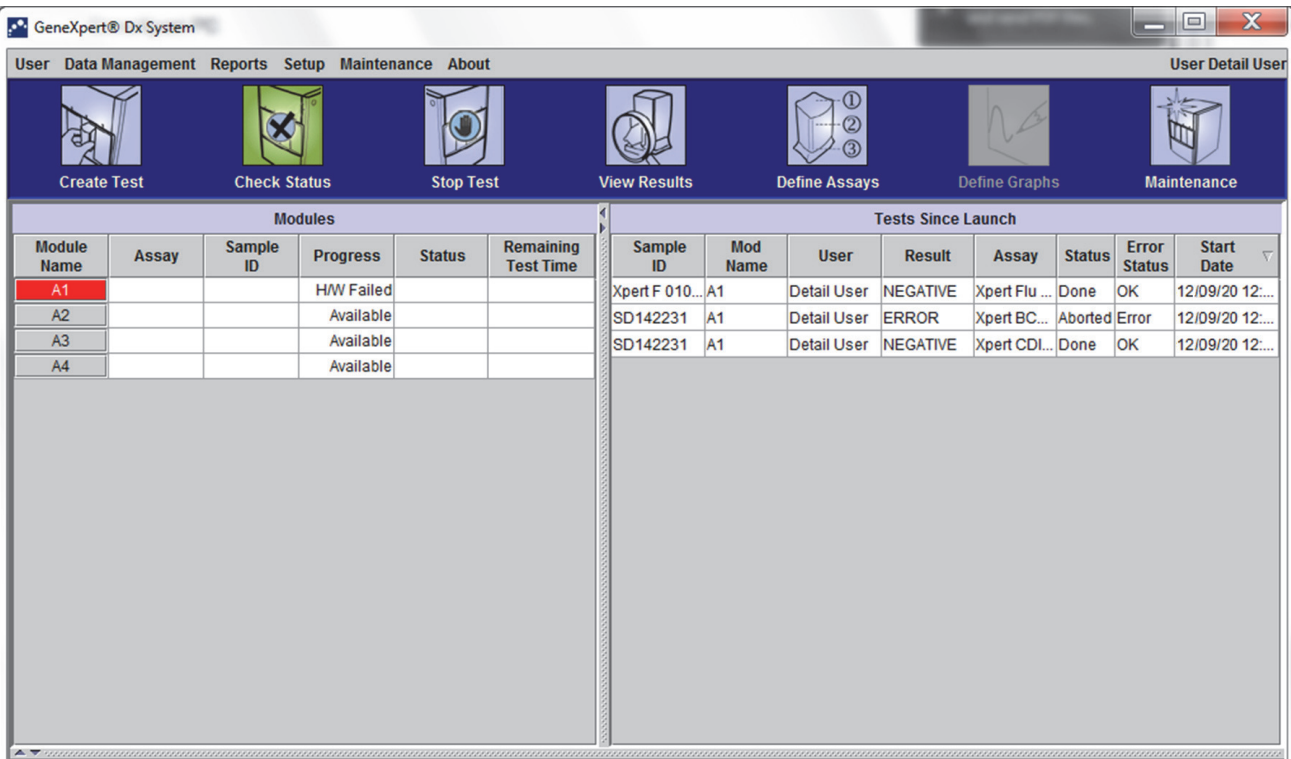
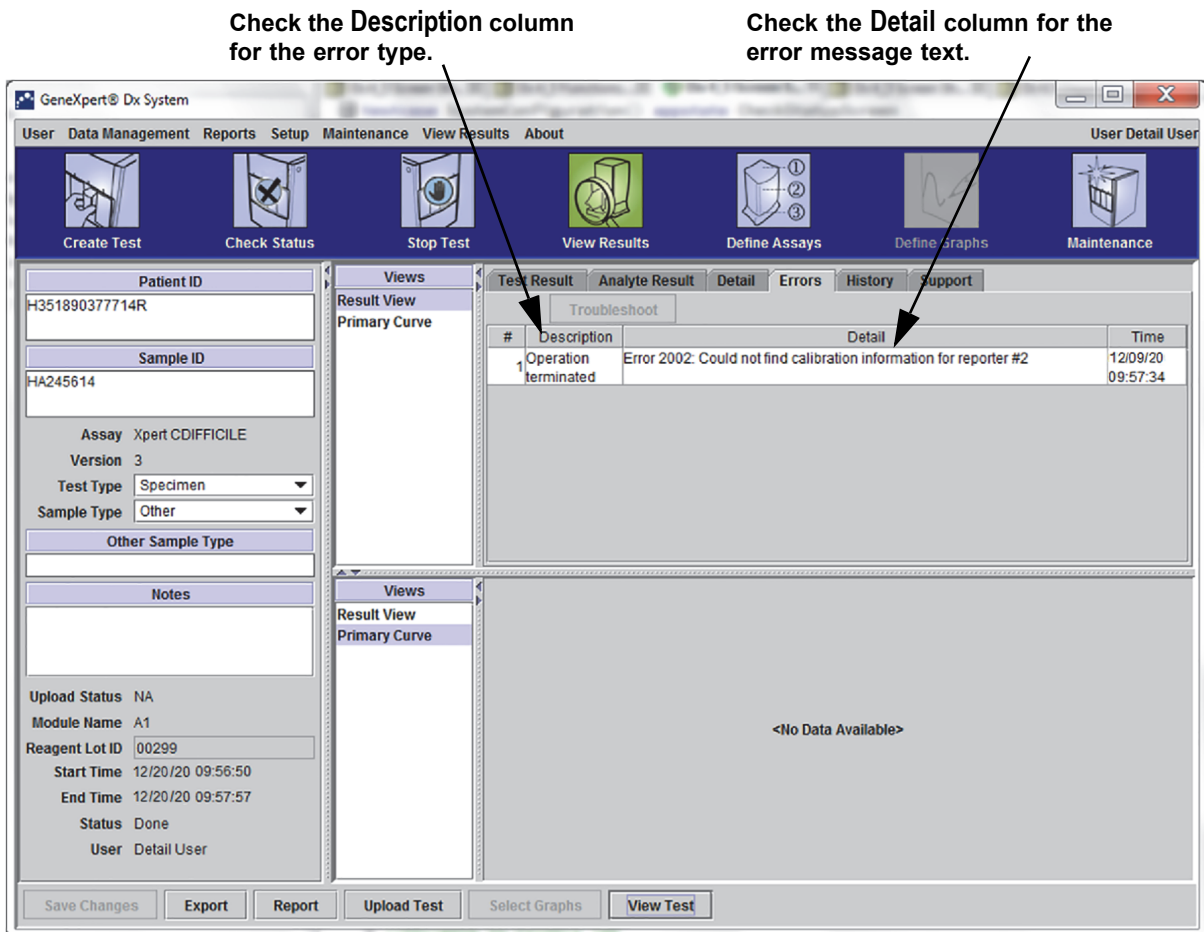

Figure 9-19. GeneXpert Dx System—Check Status Window
Figure 9-20. GeneXpert Dx System—View Results Window—Errors Tab (Detail Users and Administrator View)
- **Section 9.19.2.5, Post-Run Analysis Errors**—Errors that occur during the data reduction process. You can view all of the errors in the Check Status window (see Figure 9-19). Details for test-specific errors are also shown on the **Errors** tab of the View Results window (see Figure 9-20).
Table 9-3 lists errors that might appear during a test that is not aborted. Although the system was able to finish the test and save the results, some non-critical errors occurred and require attention. These error messages appear in the View Results window (see Figure 9-20). To contact Hach Technical Support, see the Technical Assistance section in the Preface for the contact information.
Table 9-4 lists errors that might appear when a test is aborted. The operation-terminated error messages appear in the View Results window. See Figure 9-20. To contact Hach Technical Support, see the Technical Assistance section in the Preface for the contact information.
Table 9-5 lists errors that might appear during a cartridge loading process. The cartridge-loading error messages appear in the Check Status window. See Figure 9-19.
Table 9-6 lists errors that might appear during the self-test process. The self-test error messages appear in the Check Status window. See Figure 9-19. To contact Hach Technical Support, see the Technical Assistance section in the Preface for the contact information.
Table 9-7 lists errors that might appear during the post-run analysis (data reduction) process. The post-run analysis error messages appear in the View Results window (see Figure 9-20). To contact Hach Technical Support, see the Technical Assistance section in the Preface for the contact information.